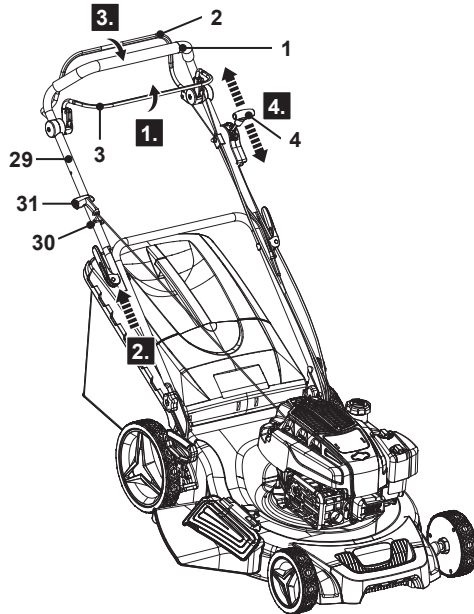

Fig. 24
3. Rest the recoil starter handle (31) onto the hook (30) located on the right-hand side of the upper handle bar (29).
4. Pull the recoil starter handle (31) lightly until you feel resistance then pull it rapidly. Do it repeatedly until the engine starts (Fig. 24, step 2).
5. When you are ready to mow, push the self-propelling lever (2) forward and hold it against the upper grip handle (1) (Fig. 24, step 3). The product starts moving forward and begins mowing.
6. Shift the speed lever (4) to a suitable self-propelling speed (Fig. 24, step 4).